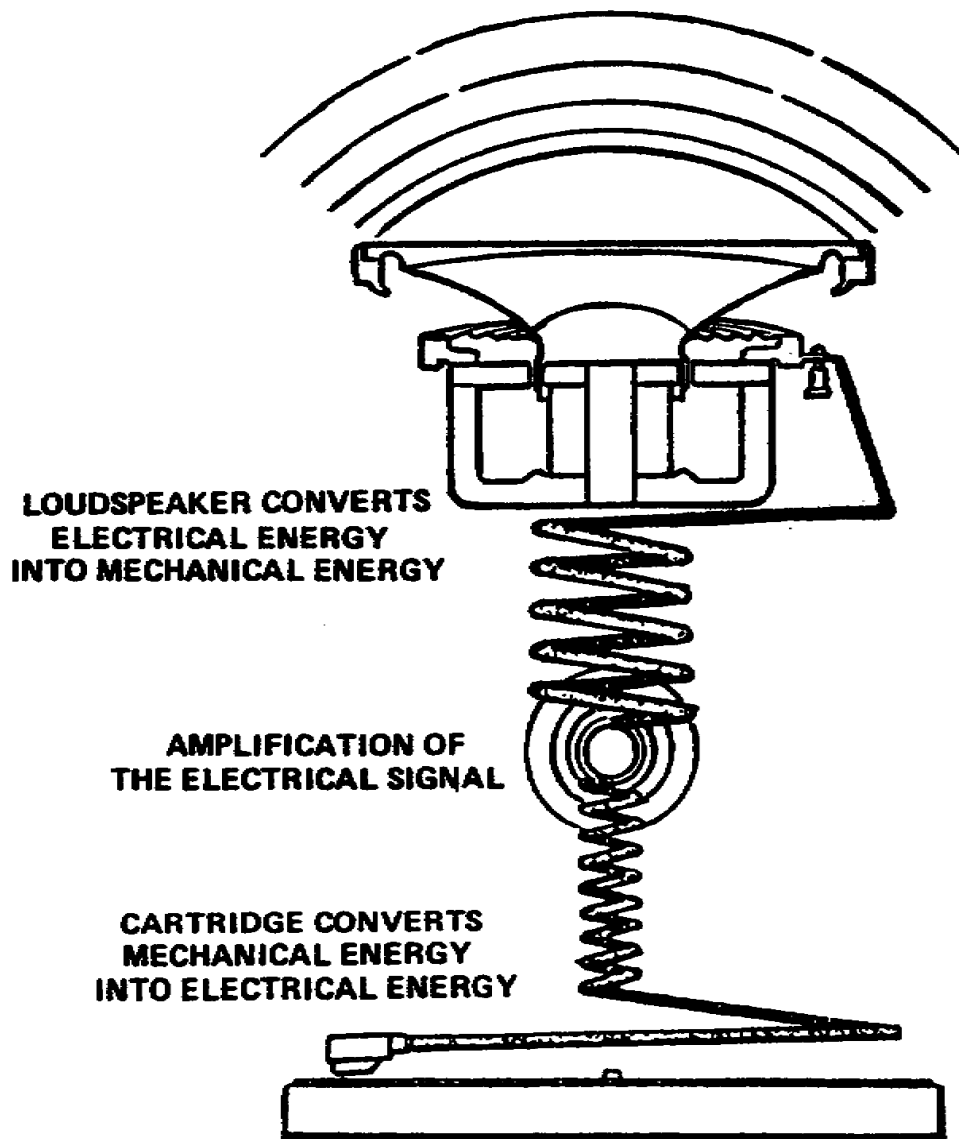

Figure 5-5. Speaker pumping action creates air vibrations we hear as sound
1. Speakers. Speakers transform energy from one form to another; i.e., electrical to mechanical energy. The speaker will convert the audio signal sent to it from the amplifier and change it into a instantaneous pumping motion. This motion (fig 5-5) is strong enough to transport air in vibrating patterns of waves that the ear hears as sound.